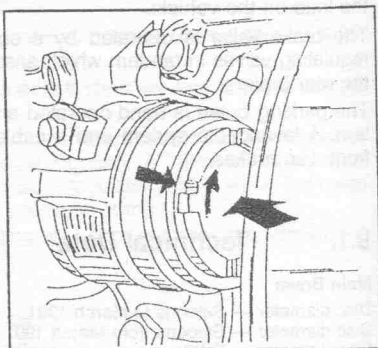

Fig. 9.1. — The arrows show the movement of the piston to push it back into the bore.
- Push the caliper piston back into its bore. To do this, the piston must be rotated and at the same time pushed in. Two screwdrivers can be used for this operation. Insert the blade of one screwdriver into the slots of the piston end face and with the other screwdriver push the piston inwards. Take care not to damage the piston or caliper. The screwdriver must not be applied against the brake disc to push back the piston, as the disc may be damaged. Fig. 9.1. shows a diagram of the operation.